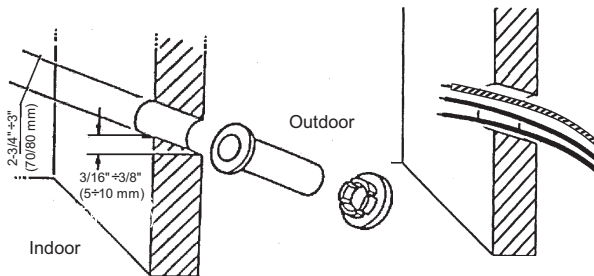

Fig. 12 - Drilling for Connections
- a. Drill a 2-3/4 in. (70 mm) hole in the wall with a 3/16 in. to 3/8 in. (4.8 - 9.5 mm) slope toward the outside. Refer to Fig. 12.